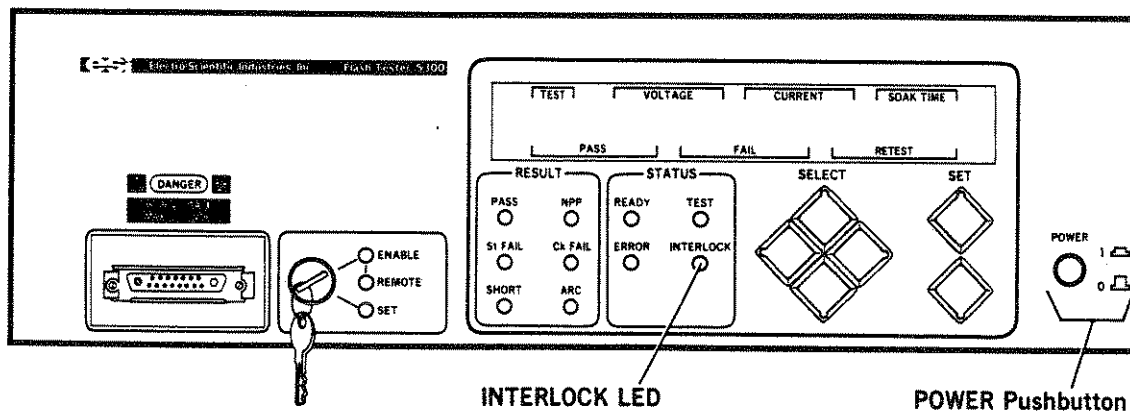

Figure 7-33. Location of POWER Button and INTERLOCK LED
STEP 2. Close the cover on the handler and test head. Plug the 5300 into a source of line power. Press the POWER button to turn the instrument to 1 (on). Refer to Figure 7-33 for the location of the POWER button.
STEP 3. Observe that the INTERLOCK LED is illuminated, indicating that the Interlock system is open. Refer to Figure 7-33 for the location of the INTERLOCK LED.